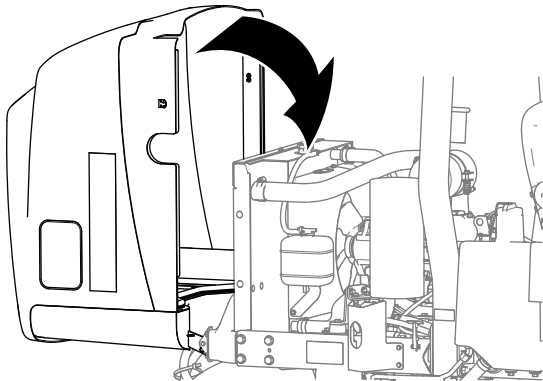

Figure 25
1. Rotate the hood forward and carefully lower it to the machine (Figure 25).